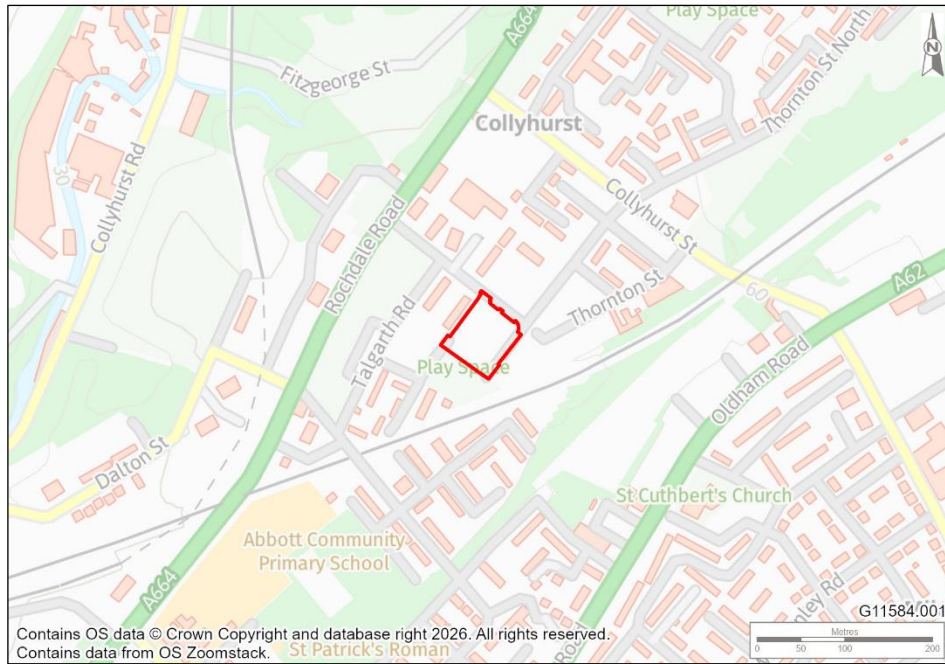

Figure 1: Site location and local context
- 1.6 The site is roughly rectangular in shape, covering 0.46 ha, and is bounded by Whitley Road to the north, Winscombe Drive to the south and Kingsfold Avenue to the west. A hardstanding play area lies to the southwest, with residential development surrounding the wider area. The site's central grid reference is SJ 85383 99716. A site location plan is provided in Figure 1.